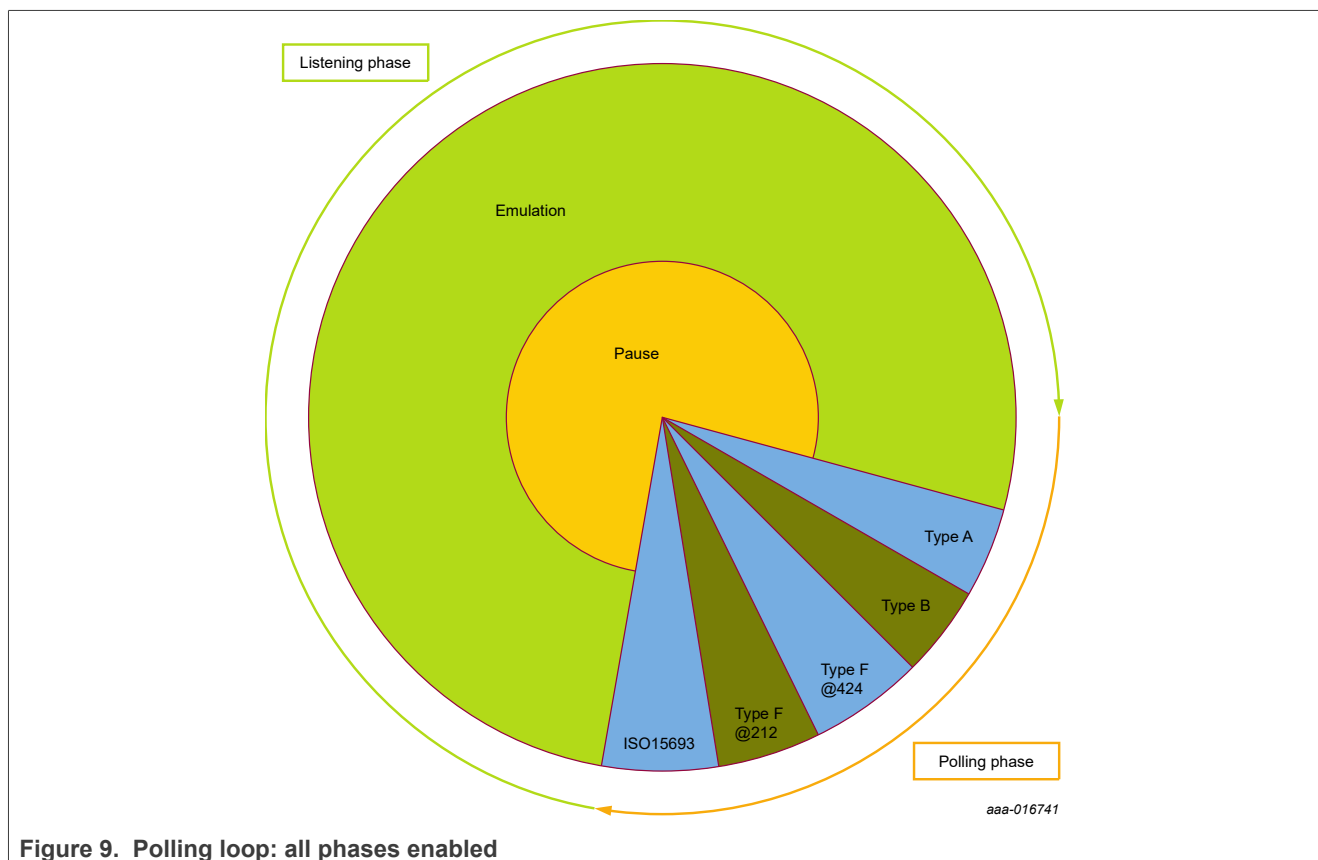

Figure 9. Polling loop: all phases enabled
- Listening phase. The PN7160 can be in Standby power state or Idle mode (called pause in Figure 9; no communication is on-going) or Listener mode (called Emulation in Figure 9; card / target communication is started)